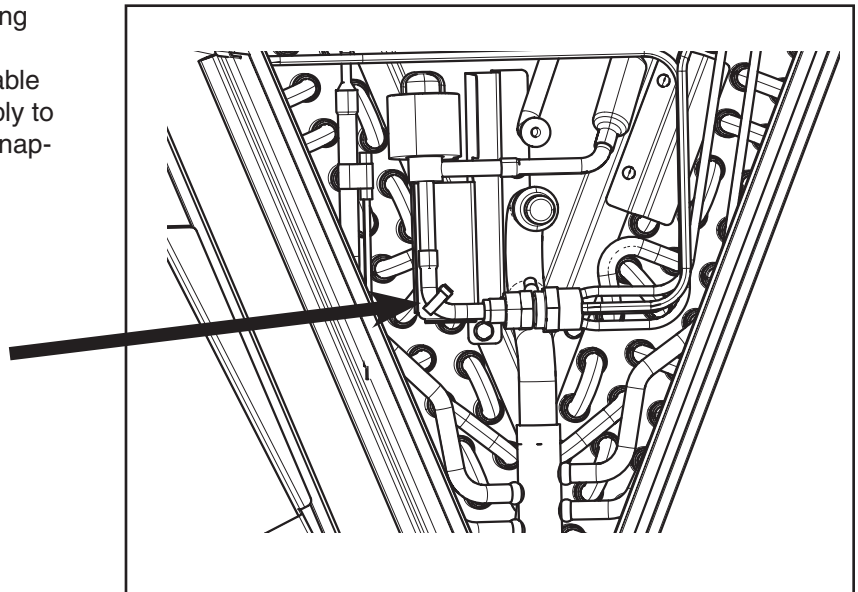

Figure 67 – Remove Cable Tie
4. Use wire cutters to remove the snap-in cable tie attaching the EEV flow control assembly to the coil as shown in Figure 67. Pop out snap-in cable tie and discard.